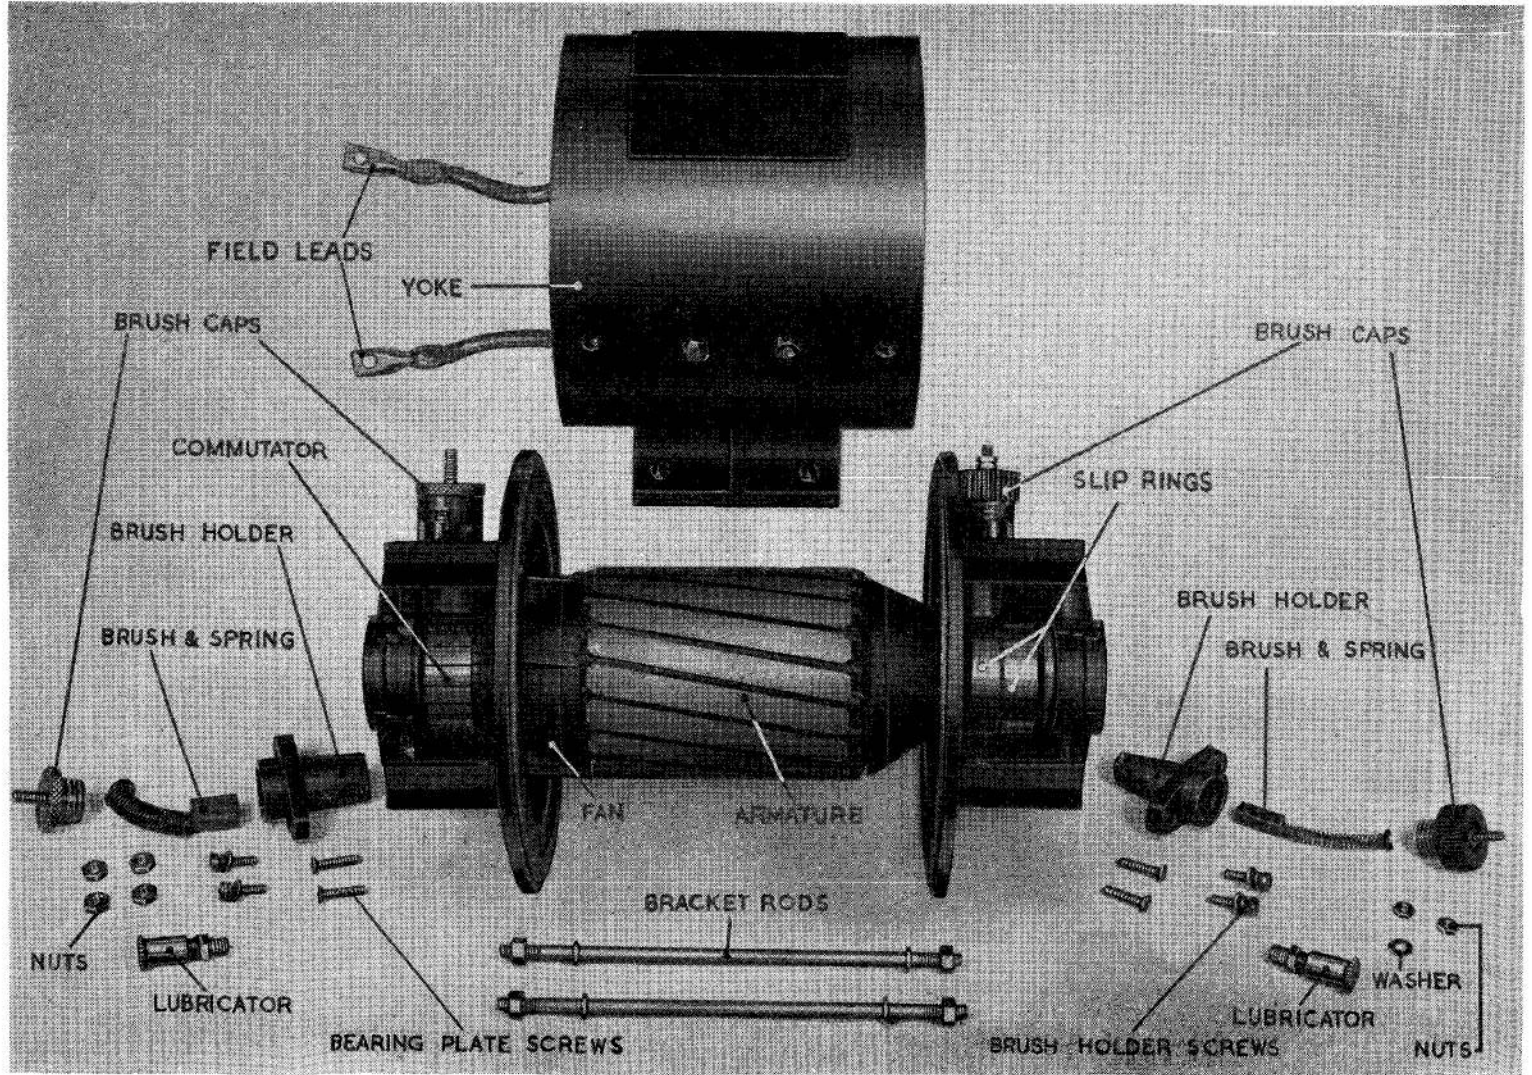

Fig. 2. Exploded view of rotary inverter (12-volt)
3. The combined d.c. motor and a.c. generator are housed in a common yoke and, as may be seen from fig. 2, the respective a.c. rotor and slip rings and d.c. armature and commutator are assembled on the same shaft. At the input or commutator end of the converter the windings are secured by binding wires at their point of juncture with the commutator riser, whilst at the output end the windings are bound immediately behind the slip rings. In addition to this the windings are wrapped at each end of the armature by two tin bands, extending from the armature stampings to the inside of the end plate. The bands at the commutator end have six vanes attached so that a cooling flow of air is provided as the armature rotates.
4. The cast end plates are secured to the yoke by two $5 \frac{1}{8}$ in. long bracket rods with 2 B.A. hexagon nuts and spring washers. As shown in fig. 2 the end plates cover the slip rings and commutator and are bossed to house the bearing races. Ball bearings are employed at both ends of the machine, each bearing being held in position by a metal washer and two countersunk 4 B.A. screws. Before despatch from the manufacturers the bearings are packed with grease and the boss is drilled obliquely to provide a greaseway. A Rotherham R.5 lubricator is fitted.